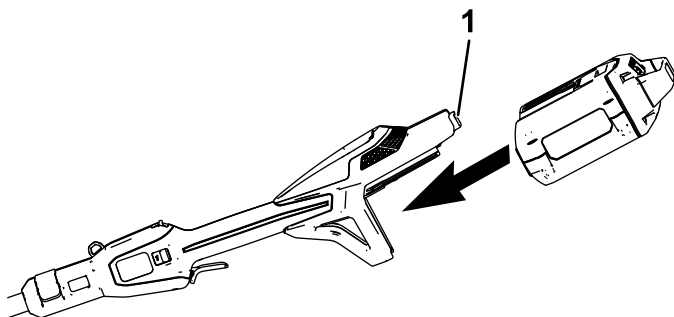

Figure 7
2. Align the cavity in the battery pack with the tongue on the power head (Figure 7).
3. Push the battery pack into the power head until the battery locks into the latch (Figure 7).